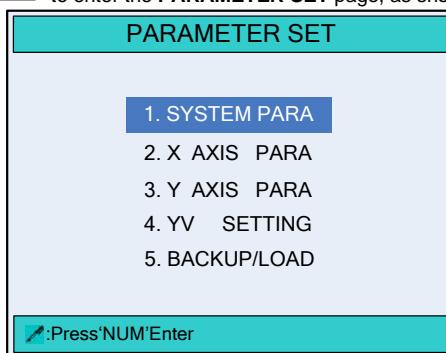

Figure 3-5 The **PARAMETER SET** page
Step 3 Move the cursor to parameter **mm/inch** or **中文/English**, enter the password **14789**, and press to enter the **PARAMETER SET** page, as shown in Figure 3-5.